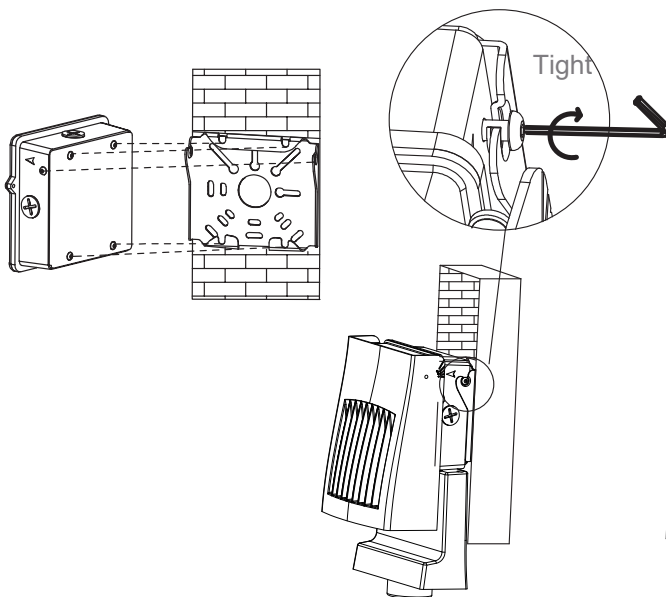

Figure 6
10. Pull up and detach the fixture. Position it to the mounting plate using all the back top, bottom and side hanging screws into the appropriate hooks of the mounting plate (top to top, bottom to bottom, side to side). Secure the fixture by tightening the two side retaining screws. (Figure 6).